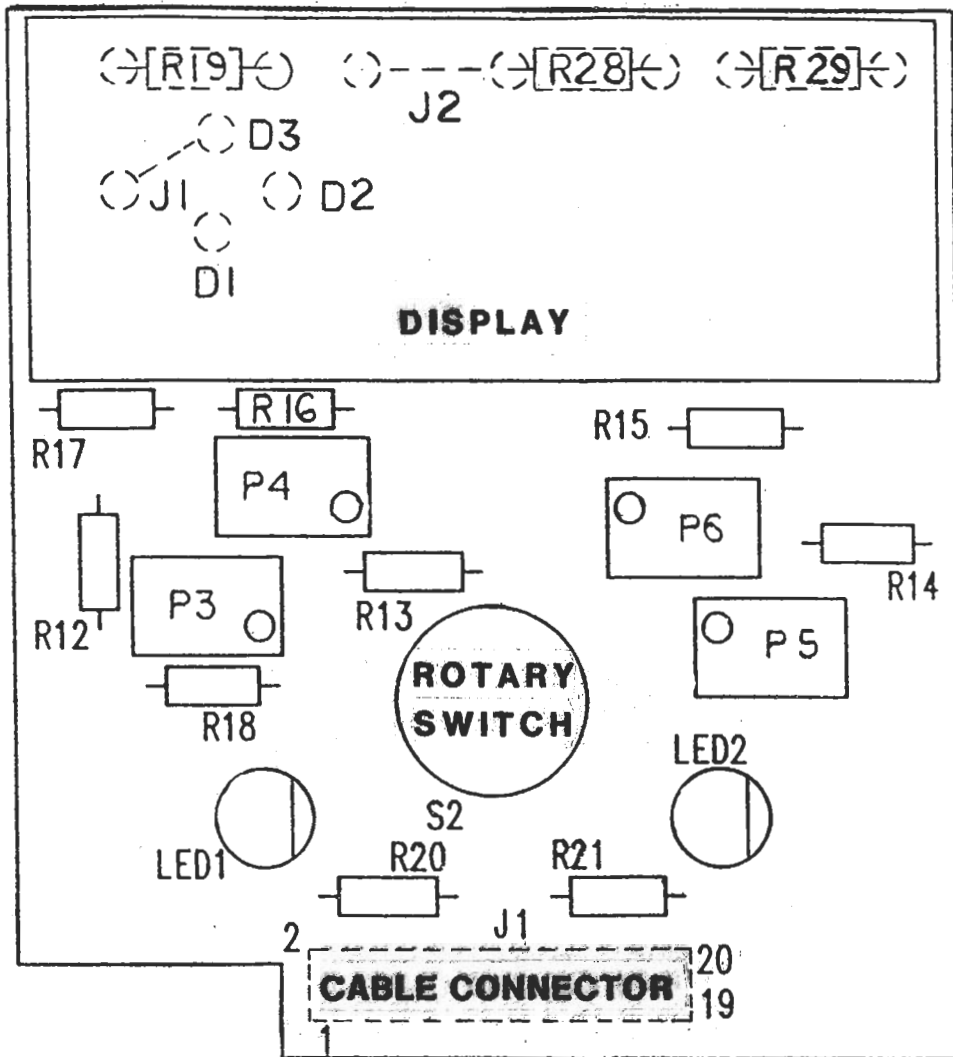

Figure 7.2 – Component Location, Display Board
The display of the 332 Alarm/Controller can also be calibrated to read directly in engineering units. To do this requires the removal of jumper J2, the selection of resistors R28 and R29, and the positioning of jumper J1, for decimal point selection. These components are located on turret terminals on the PC board, behind the display (see fig. 7.2).
- d. To troubleshoot the circuit refer to the schematic, figure 7.1 and component location drawings, figures 7.2, 7.3 and 7.4.